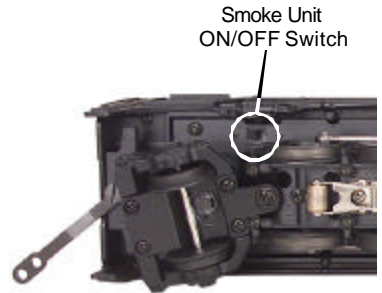

Figure 4. Smoke Unit ON/OFF Switch
3. If you choose not to prime the unit with fluid, turn the smoke unit switch located under the trailing truck to the OFF position (see Fig. 4 on pg. 10).
If you choose not to add the fluid (or have already added the fluid but choose to run smoke-free), turn off the smoke unit switch located under the trailing truck (see Fig. 4). **Failure either to add fluid to the unit or to turn it off may damage the smoke unit heating element and/or wick material.**